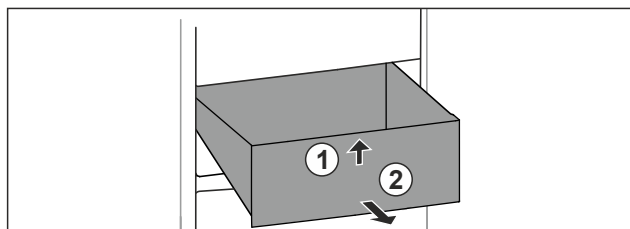

Fig. 26
- Lift up drawer at the front. Fig. 26 (1)
- Remove drawer to the front. Fig. 26 (2)